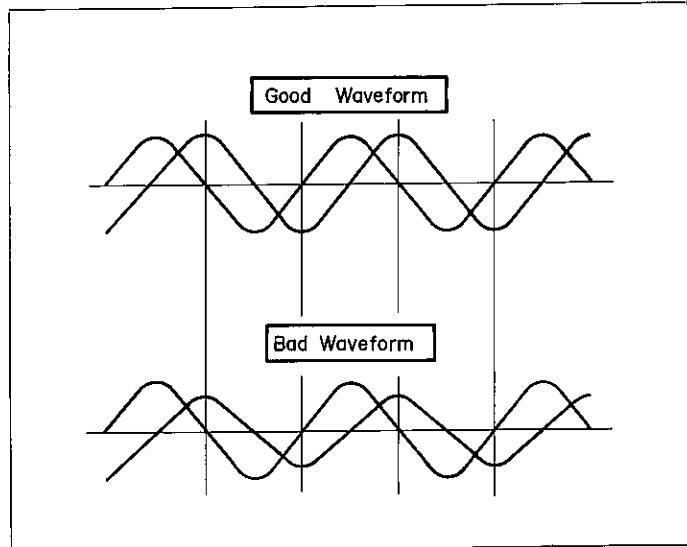

Figure 42
1. Connect one end of a dual-beam oscilloscope, on the control PWB, between pin ⑬ (GND) and pin ⑧ and another between pin ⑬ (GND) and pin ⑦.
2. Turn the variable resistors VR2 and VR3 to generate two waveforms and adjust so that these two will have symmetry vertical, as shown in Figure 42.